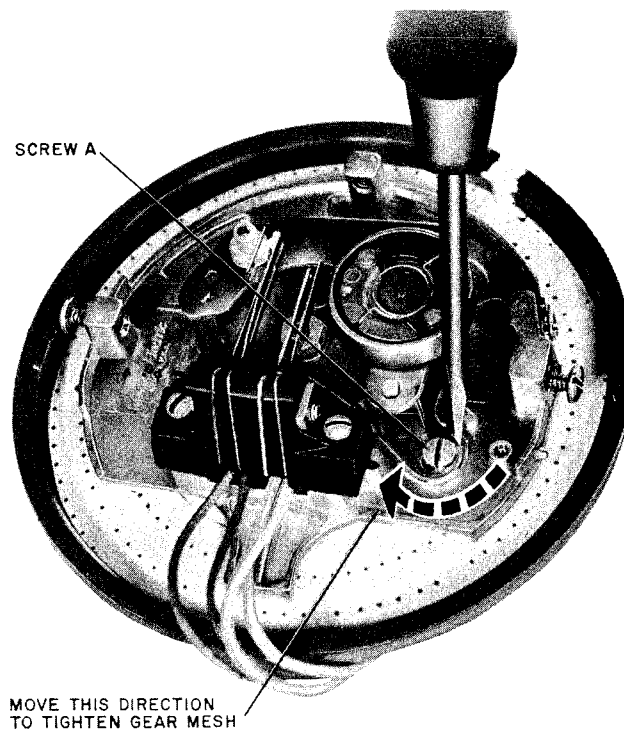

Fig. 28—Using Screwdriver to Tighten Gear Mesh
(1) Loosen screw A (Fig. 28) just enough to allow the elongated slot in the gear train assembly to be moved.
(2) To tighten gear mesh, place screwdriver blade between raised detail on frame and gear train assembly (Fig. 28). Twist blade enough to slightly move the assembly. Test dial each time the assembly is moved using methods described in steps (4) through (7) in 3.32.